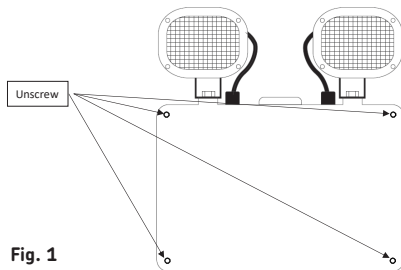

Fig. 1
- Unscrew the four fastening screws and remove the front cover (see Fig. 1)